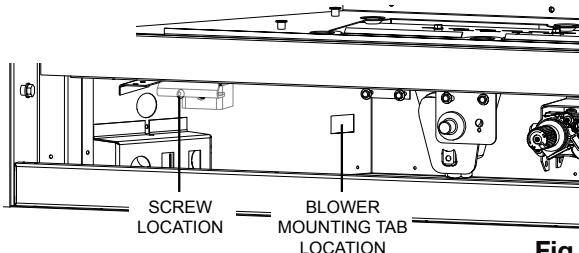

Fig. 1
- A. Adjust the air shutter rod until the desired flame is achieved. Push up to close and pull down to open (**Fig. 1**).
6. Pivot the blower into the bottom of the appliance, ensuring the gasket remains in place between the blower and outer shell while sliding the blower against the left side of the outer shell into the blower mounting tab. Secure in place using one screw (**Fig. 1 and 2**).